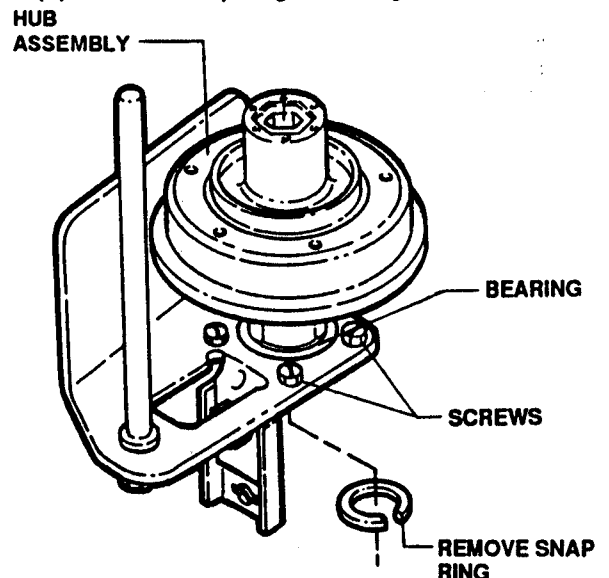

FIGURE 3.18
- (a) Remove snap ring. See Figure 3.18.